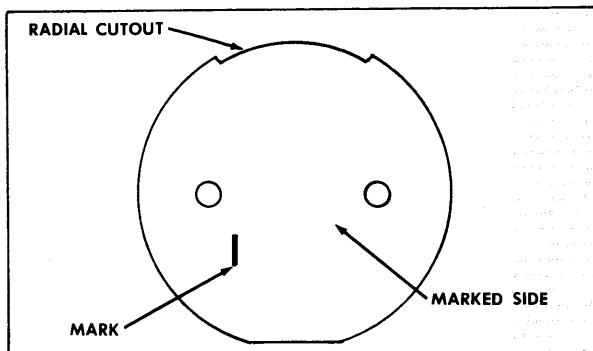

Figure 1—Installing Shutter
- C. Note that edge of shutter is angled. When installing, install shutter with radial cut out portion in first and marked side up as shown in figure 1. Slip shutter in through slot in throttle shaft. Release throttle shaft arm and seat shutter in bore of carburetor. Shutter must seat in bore of carburetor with no air gaps. Install screws to secure shutter.